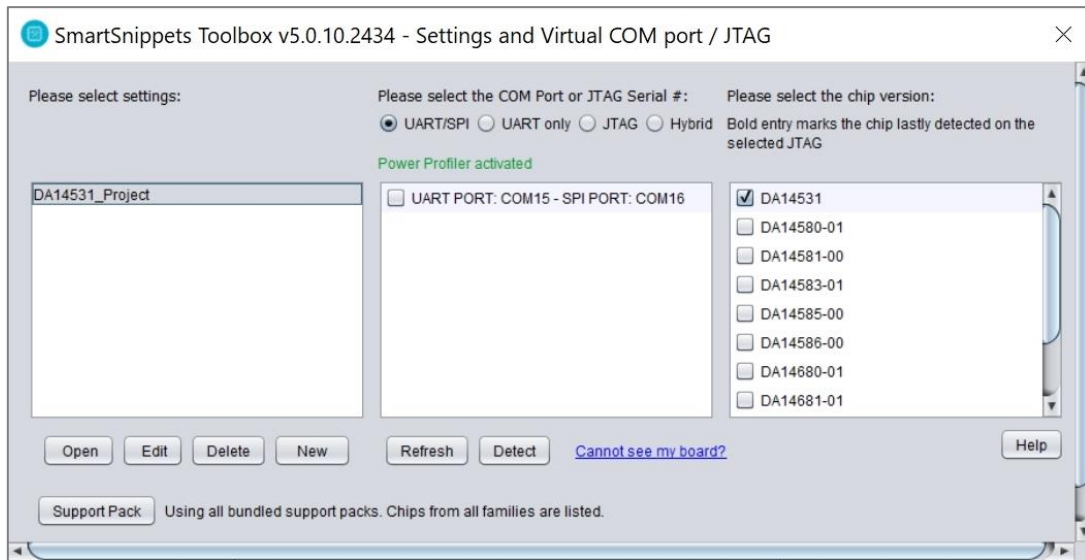
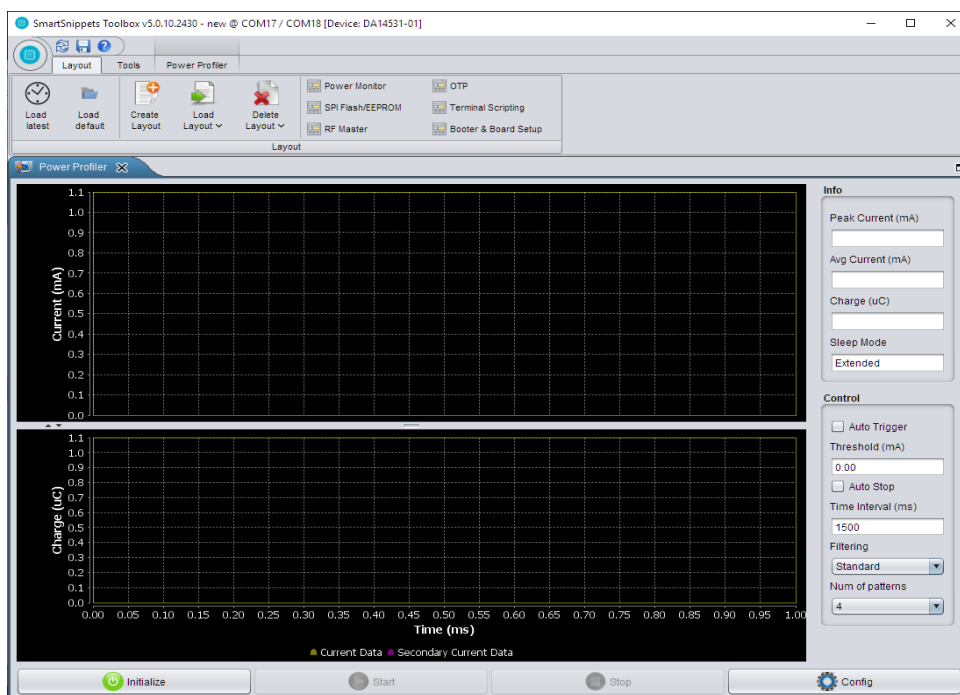

Figure 38: SmartSnippets Toolbox Configuration
Figure 40: Power Profiler of SmartSnippets Toolbox Main Window
Upon opening, the application starts with the settings/interface options page. An existing entry can be selected from the list, or a new configuration can be created by clicking the **New** button (Figure 38).
At this point, to change the hardware setup, for example, to plug in another board, click the **Refresh** button (Figure 38) and the list of available ports will be updated.
To select the chip version, click the **Detect** button (Figure 38) and the tool identifies the exact part number of the SoC on the target board.
For power measurements, users need to select an interface that allows the PC software (SmartSnippets Toolbox) to communicate with the A/D converter through the correct SPI port (which is camouflaged in the PC as a plain UART part. In Figure 38, the selected SPI port is COM18).
For power measurement, the **UART/SPI** option as in Figure 38 is preferred, because JTAG is used for downloading code from the IDE and debugging. The **Hybrid** option can also be used. But power measurements are not feasible in the **UART-only** or **JTAG** option.
1. After selecting the proper option (**UART/SPI** or **Hybrid**) in Figure 38, click **Open** and the main window of the Power Profiler application in SmartSnippets Toolbox will pop up (Figure 40).